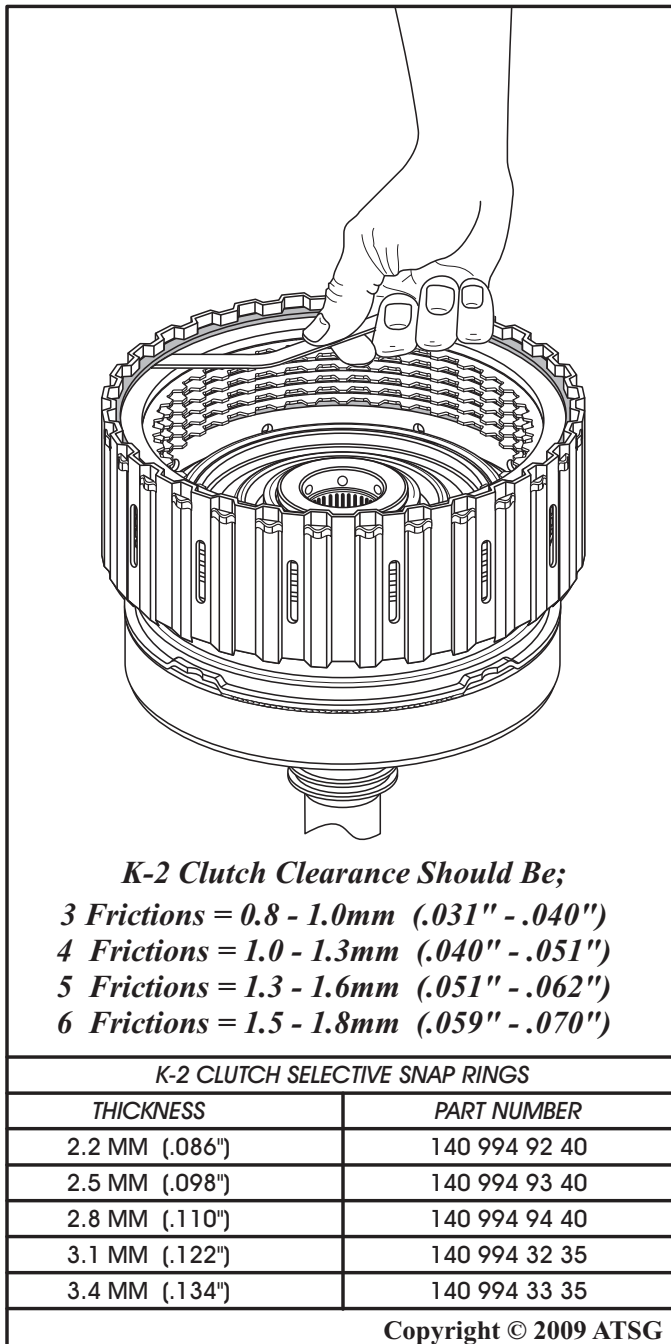

Figure 110
22. Measure K-2 clutch clearance using a feeler gauge between the selective snap ring and the backing plate, as shown in Figure 110.
23. K-2 clutch clearance will depend on how many friction plates are used in the pack. The proper clearances for each are listed in Figure 110.
24. Change the selective snap ring as necessary to obtain the proper clutch clearance. There are 5 different snap ring thickness' available and are listed in Figure 110.